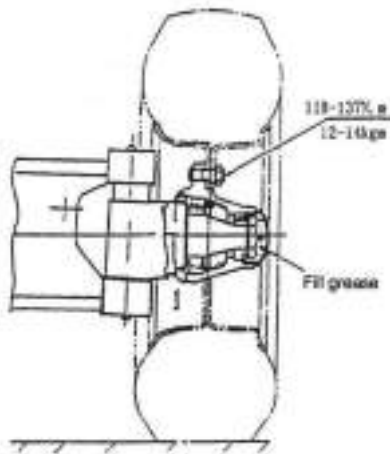

Figure 4.23 Pre-load adjustment
- (1) As shown in Figure 4.23, fill grease in the chamber formed by wheel hubs, wheel hub bearing and wheel hub covers. Coat the lips of the oil seals with lubricating grease.
- (2) Fix the bearing race to the hub and mount the hub on the knuckle shaft.
- (3) Fit a flat washer and tighten a castle nut with torque of 206~235N.m and loosen it and then tighten it again with torque of 9.8N.m.
- (4) slightly knock at it with a wooden hammer and rotate the hub for 3~4 turns to ensure no looseness of the hub;
- (5) Tighten the castle nut and align one of its notches with a hole drilled in the steering knuckle.
- (6) Again slightly knock at the hub with a wooden hammer and manually rotate the hub for 3~4 turns to ensure its smooth rotation with a specified torque of 2.94~7.8N.m.
- (7) If the rotating torque is higher than the specified value, screw out the castle nut for 1/6 turn and measure the torque value then.
- (8) When the torque value measured is up to the specified one, lock the castle nut with a cotter pin.